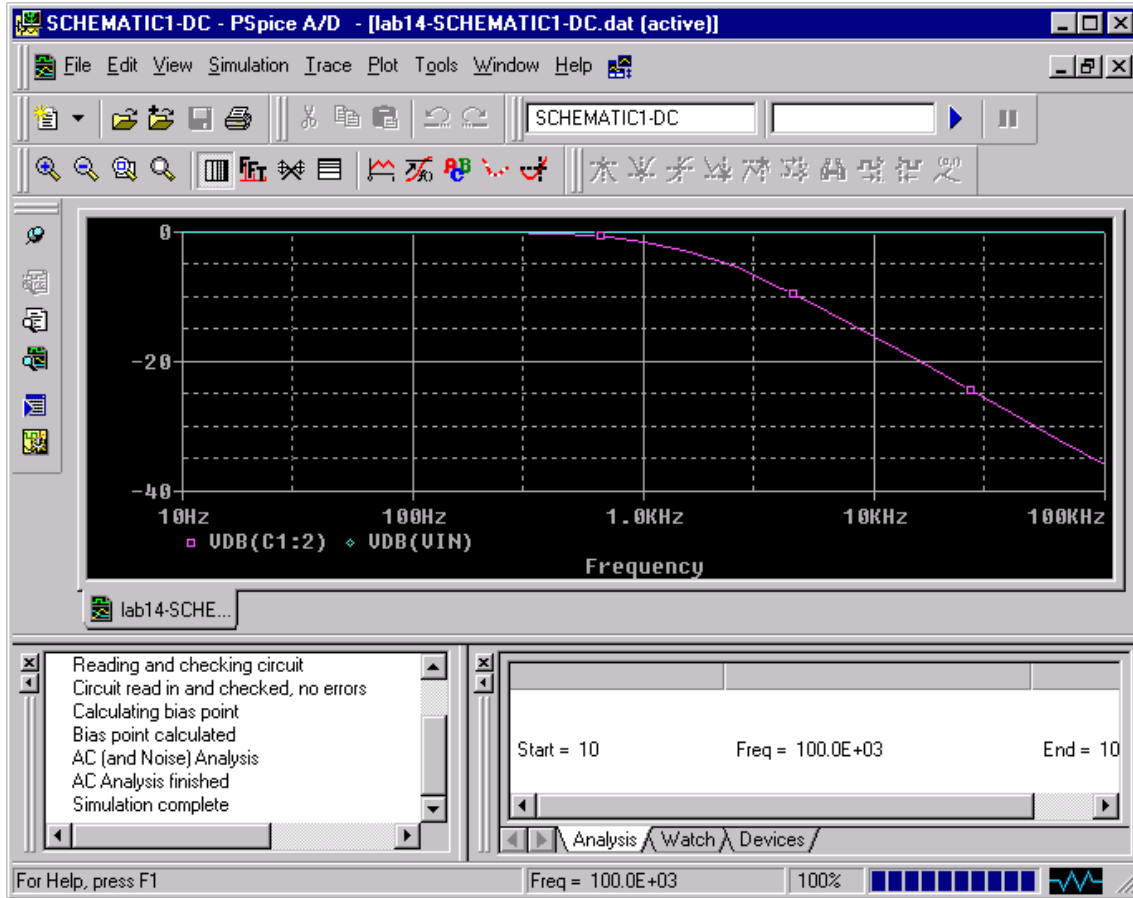

Fig. 5: Bode Plot for the lowpass filter of Fig. 4.
PSpice displays the dB magnitude ($20\log_{10}$) of the voltage at the marked nets, Vout and Vin, in a Probe window as shown in Fig. 5 below. Vdb has a lowpass response due to the capacitor C1 to the ground. Because AC is a linear analysis and the input voltage was set to 1V, the output voltage is the same as the gain (or attenuation) of the circuit.
4. From the Edit menu, choose Paste. The Bode plot appears, as shown in Fig. 5.